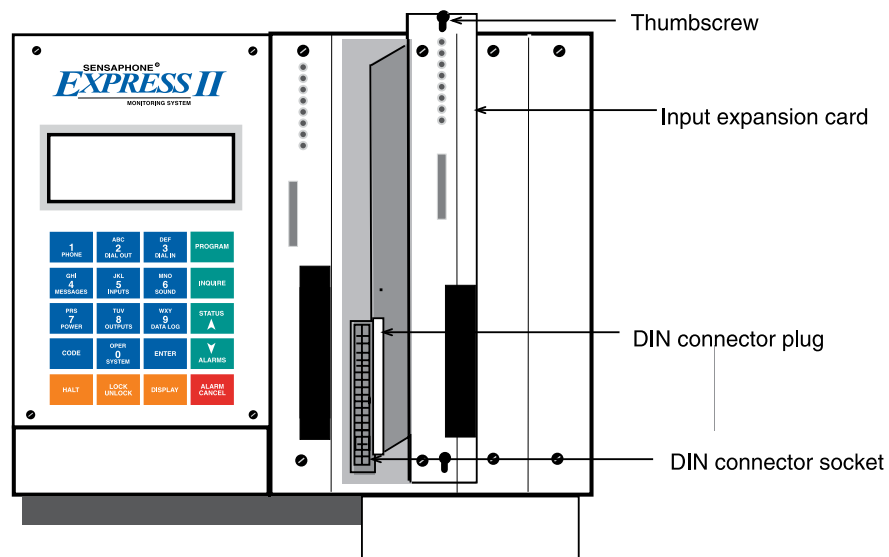

Figure 11: Line up and insert card
3. Hold the card with the LEDs at the top, and line up the DIN connector plug on the card with the DIN connector socket on the motherboard. See Figure 11.